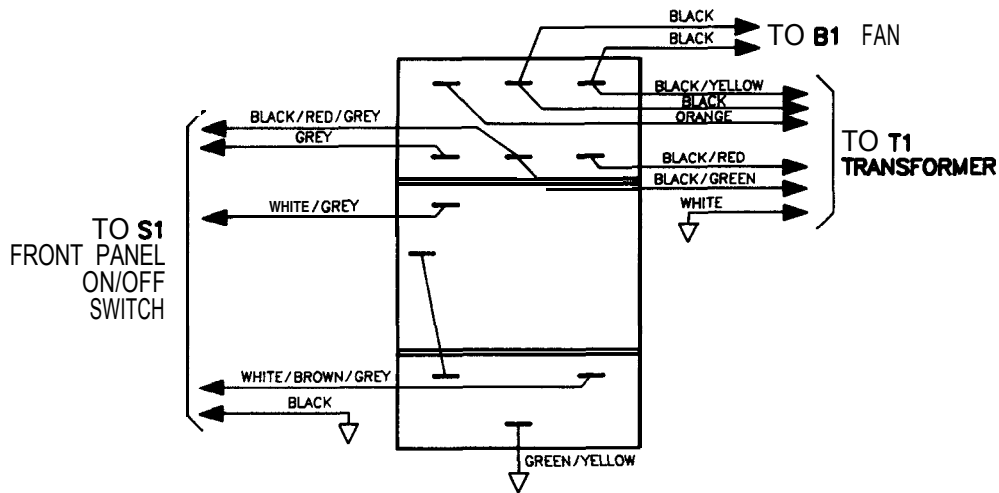

Figure 5-9. Wire Connections to Line Module FL1
Refer to Figure 5-9 and the following text to repair 3.5 mm connectors.
7. Remove transformer T1. When replacing the transformer, refer to Figure 5-9, which illustrates the locations of the various wires connected to line module FL1.